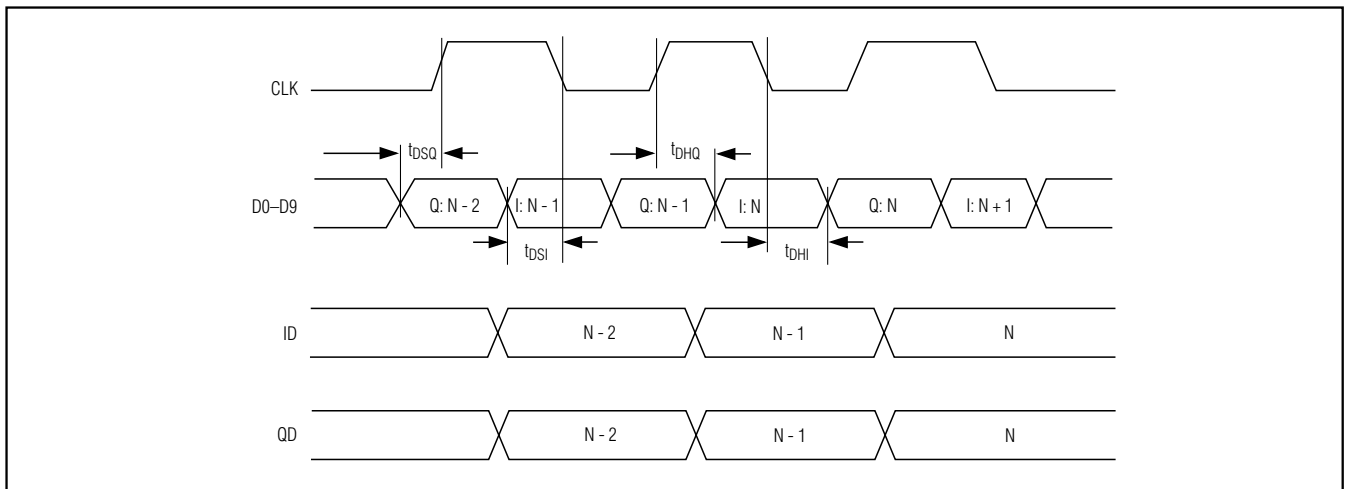

Figure 6. Tx DAC System Timing Diagram
Figure 6 shows the relationship between the clock, input data, and analog outputs. Data for the I channel (ID) is latched on the falling edge of the clock signal, and Q-channel (QD) data is latched on the rising edge of the clock signal. Both I and Q outputs are simultaneously updated on the next rising edge of the clock signal.